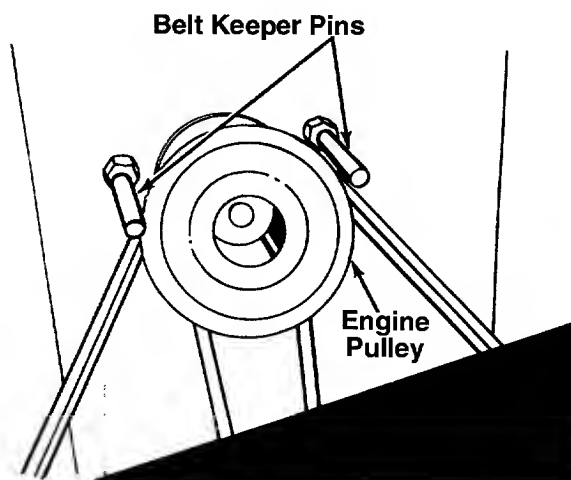

FIGURE 19.
NOTE: Figures 19, 22 and 23 are shown with the unit tipped up for clarity. It is not necessary to tip the unit to remove the belts.
2. Remove the belt keeper pins from the engine pulley belt guard. See figure 19.
NOTE: When reassembling, make certain belt keeper pins are assembled in the same locations from which they were removed. See figure 19.
- Remove the belt keeper pins from the engine pulley belt guard. Refer to figure 19.
NOTE: Make certain belt keeper pins are reassembled as shown in figure 19.